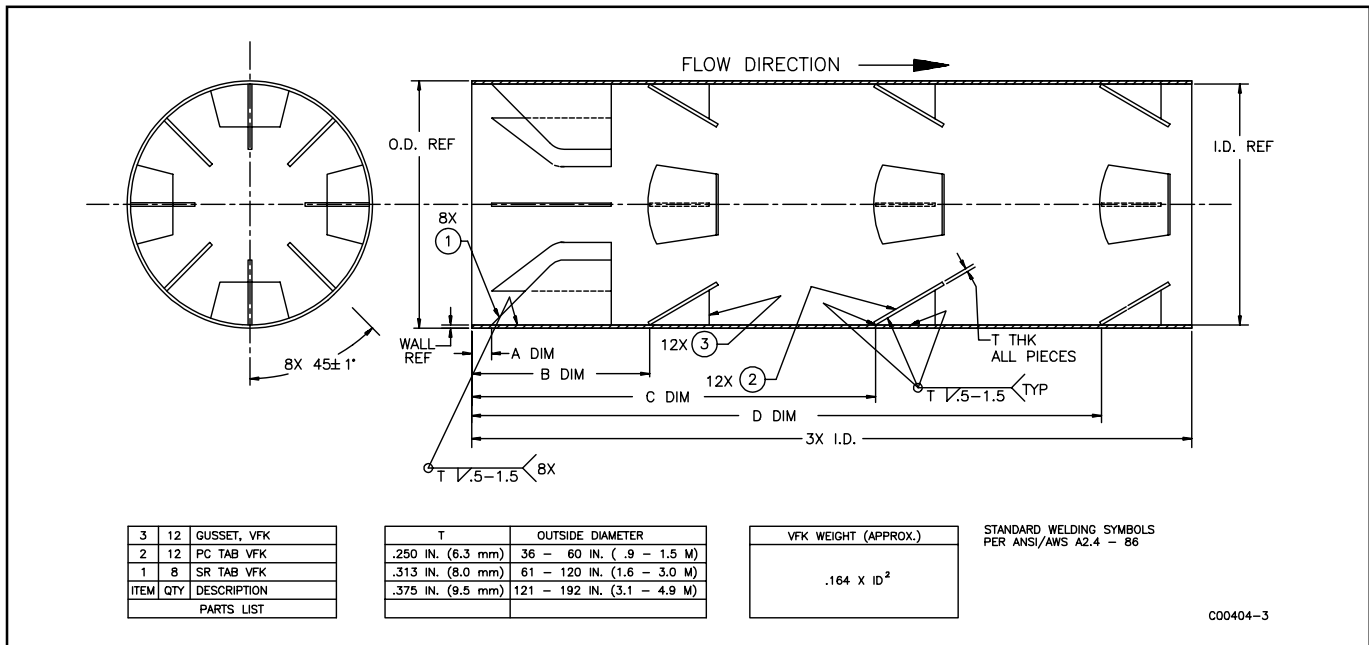
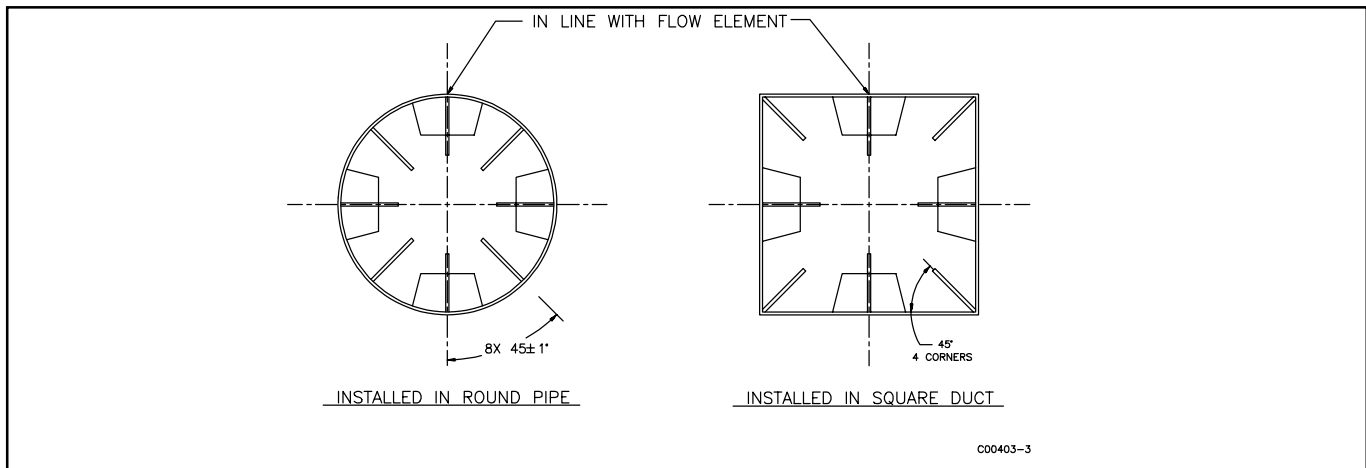

Figure 2-9. VFK Assembly Drawing
Figure 2-10. Radial Placement
Measuring from the VFK inlet, mark the inside of the process pipe for depth placement of tabs (Dimensions A, B, C, and D). See Table 2-1 and Figure 2-9. Mark the inside of the process pipe for radial placement of tabs at each depth mark. Place the first radial mark in line with the customer port (i.e., flow element). For the swirl reduction tabs (Dimension A), radial placement must be every 45° from the first radial mark. For the Profile Conditioning tabs (Dimensions B, C, and D), radial placement must be every 90° from the first radial mark. See Figure 2-10.
2. Fillet weld gussets (Item 3) to center line of PC tabs (Item 2) with intermittent welds, .50 inches long on 1.5 inch centers (approximately) per Figure 2-9.
3. Weld the first row (Dimension B) of PC tab assemblies from Step 2, to the inside of the process pipe every 90° using the same weld process per Figure 2-9. Thoroughly clean all weld spatter and slag from the process pipe. Sand blast if possible.
- Weld eight (8) SR tabs (Item 1) every 45° using the same weld process per Figure 2-9. Thoroughly clean all weld spatter and slag from process pipe. Sand blast if possible.
- Fillet weld gussets (Item 3) to the center line of PC tabs (Item 2) with intermittent welds, .50 inches long on 1.5 inch centers (approximately), per Figure 2-9.
- Weld eight (8) SR tabs (Item 1) to the inside of the process pipe every 45° using the same weld process per Figure 2-9. Thoroughly clean all weld spatter and slag from the process pipe.
- Weld the first row (Dimension B) of PC tab assemblies from Step 2, to the inside of the process pipe every 90° using the same weld process per Figure 2-9. Thoroughly clean all weld spatter and slag from the process line. Sand blast if possible.